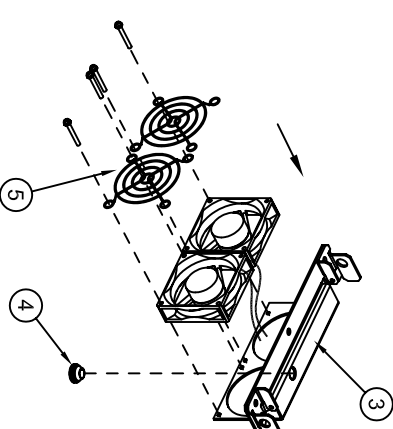

FIGURE 4-2
- 2) REMOVE FANS FROM FAN BRACKET. FANS ARE HELD TO BRACKET BY SNAP FIT. -SEE FIGURE 4-2